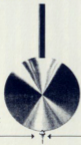

Fig. 25
**Faster:** To speed up timekeeping, turn pendulum rating nut (Fig. 25) to right (clockwise) to raise pendulum bob.
**Slower:** To slow down timekeeping, turn pendulum rating nut (Fig. 25) to left (counter clockwise) to lower the pendulum bob.